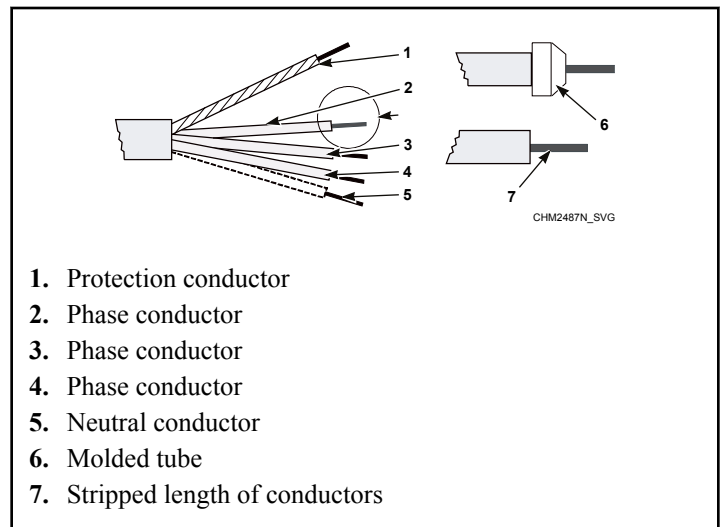

Figure 25
2. Strip the conductor ends. Refer to *Figure 25*. The protection conductor must be longer so it can be routed to the machine without tension.